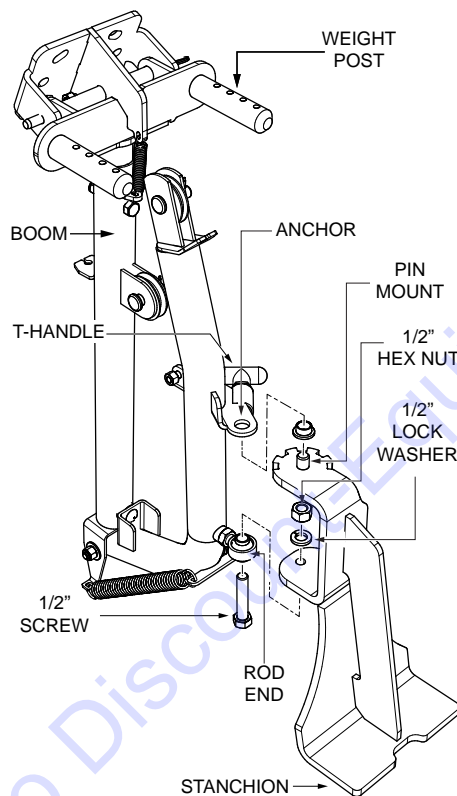

Figure 21. Boom Installation
1. Position the boom with the weight posts (2) as shown in Figure 21.
4. While holding the T-handle align and place the boom anchor onto the stanchion pin mount as shown in Figure 21.
6. Insert the 1/2" screw up through the rod end on the boom (Figure 21).